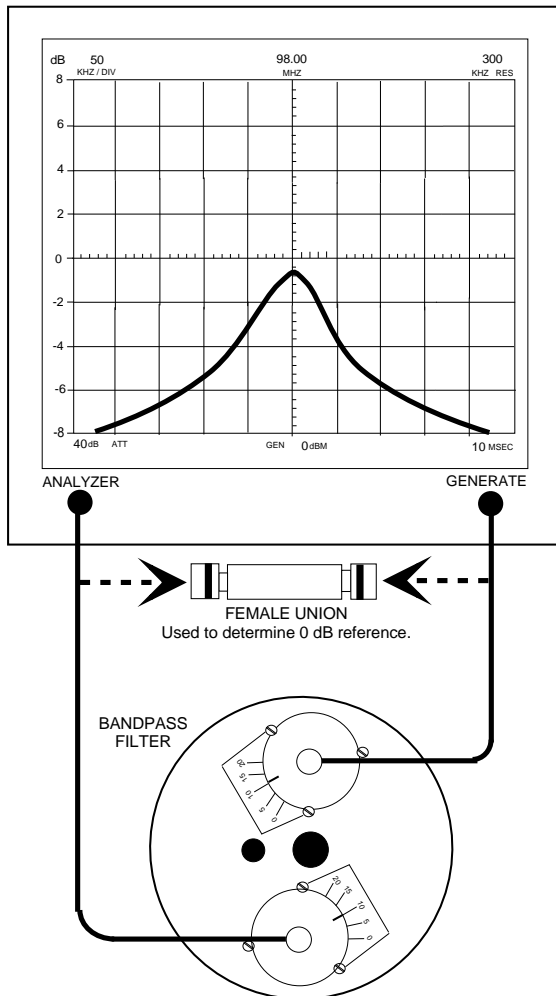

Figure 3: Checking cavity tuning.
2. The resonant frequency of the filter is checked by connecting the tracking generator to the input of the cavity filter while the spectrum analyzer is connected to the output, as shown in figure 3.
4. Set the fine tuning knob at it's mid-point. Adjust the pass frequency by setting the peak (minimum loss value) of the response curve to the desired frequency (should be the center-vertical graticule line on the IFR A-7550's display). See figure 3. The resonant frequency is adjusted by using the coarse tuning rod, which is a sliding
1. A zero reference must first be established at the IFR A-7550 before the insertion loss can be measured. This is accomplished by temporarily placing a "female union" between the generator output and analyzer input, see figure 3.
4. Connect the generator output and analyzer input to the input/output ports of the loop plates and the insertion loss will be displayed on the IFR A-7550's screen, refer to figure 3.